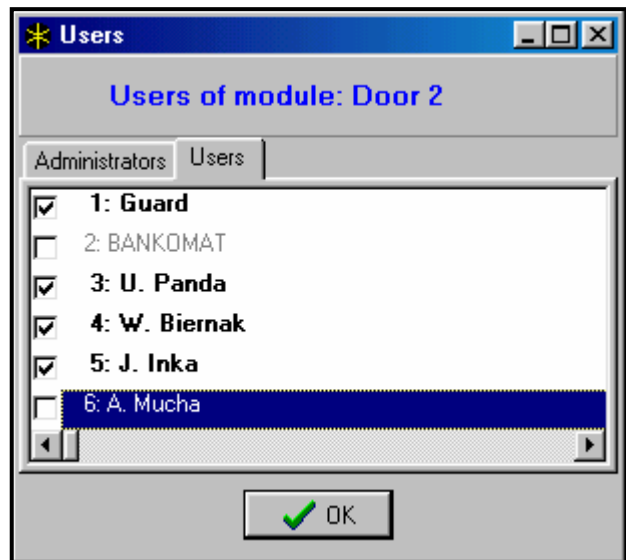

Figure 4
- ◆ **Users** – When you click with the mouse to this field, a new dialog window opens (see Figure 4) which is used for setting the list of users (administrators and ordinary users), who may use this partition keypad. Mark the user name to render accessible the partition keypad for him.